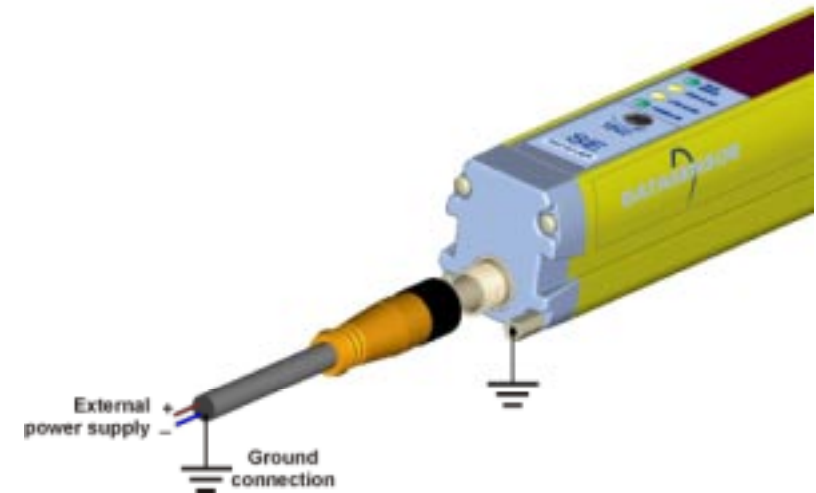
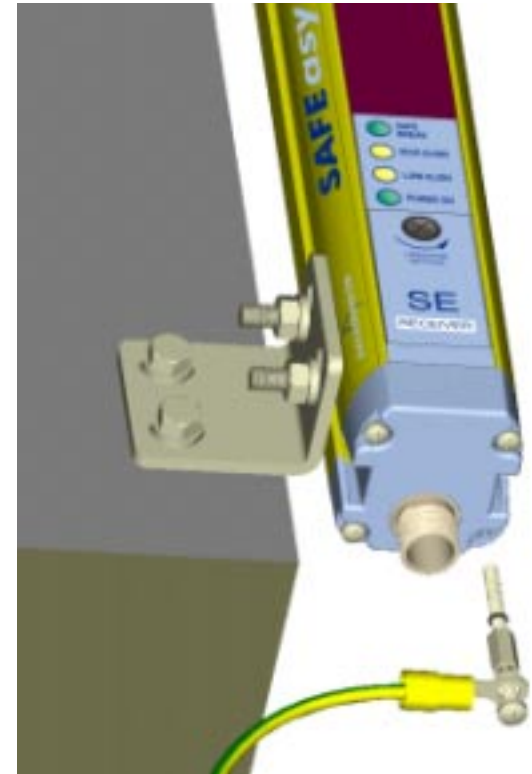

Fig. 14
Fig. 19
- Use only shielded cables for the connection of the two units. Fig.14 shows the correct connection of both the units and the cable when ground connection is used.
-  The ground connection of the two units is not necessary. However, if required, the connection is possible; tighten the special screw – supplied with the device – instead of one of the 8 screws that lock the heads of each bar (see Fig. 19). Respect the connection illustrated in page 20 (Fig. 14) when ground connection of the entire system is used.